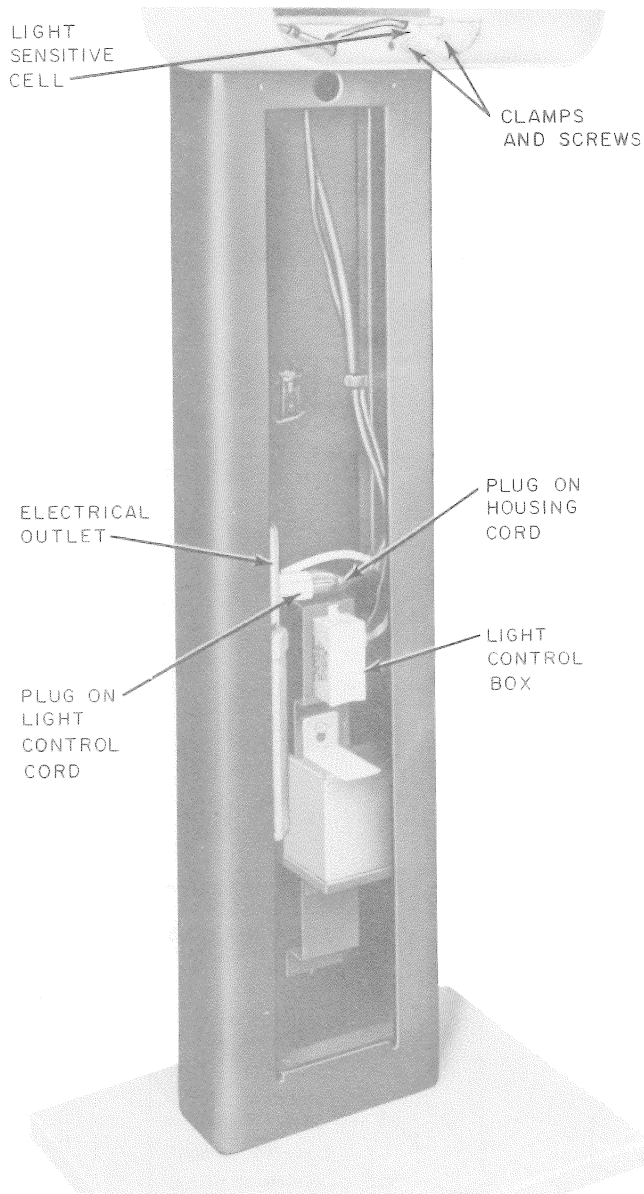
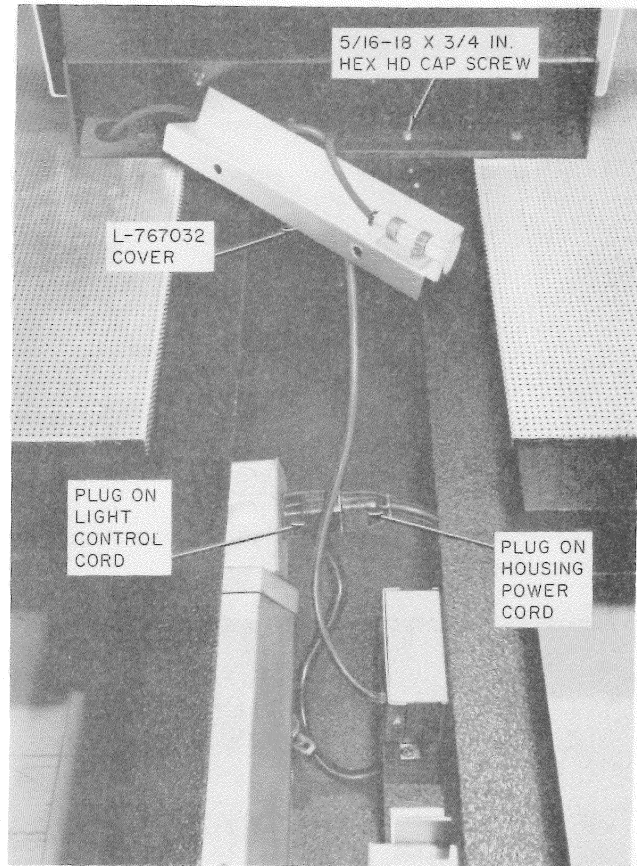

Fig. 20—Installation of KS-19261, List 4 Light Control Assembly
Fig. 24—KS-20842, List 32 Housing Installed on Post
- (4) Remove the two cap screws and two flatwashers from the lower rear of the housing and remove the L-765034 cover.
- (5) Position housing on the post with the upper support plate resting on top of post.
- (6) Pull the housing cord through the round hole on front of the post, and plug into electrical outlet or connect as shown in Fig. 20 if an optional KS-19261, List 4 light control is required.
- (7) Using the two 3/8-16 by 1-1/2 hex head cap screws and two (0.046 by 0.734 by 0.063) flatwashers removed in step (1), secure upper part of the housing by inserting the screws through the upper support plate on the housing, the post cap and into the post assembly.
- (8) Secure lower part of the housing using the L-765034 cover, the two 5/16-18 by 1 hex head cap screws and two (0.344 by 0.875 by 0.063) flatwashers removed in step (4). Reach in through opening on lower part of the post and insert the screws through the post, through the housing, and into the rear of the cover.
- (9) Ensure that the two connectors in upper part of the housing are properly engaged, and install the two 12-inch, 13-watt (F13T8-CW) fluorescent lamps removed in step (3).
- (10) Install the L-765038 sign and lens assembly to upper part of the housing, and secure using the four L-765065-3 flat head security screws (No. 10-32 by 3/4) removed and loosened in step (2).
- (4) Remove the two 5/16-18 by 3/4 hex head cap screws and two 0.344 by 0.875 by 0.063 flatwashers from the back side of the shelf (Fig. 24).
- (5) Position the List 32 housing close to the post and start to feed the plug end of the housing cord through opening in post toward the electrical outlet.
- (6) Position housing on the post with the upper support plate resting on top of the post cap.
- (7) Pull the housing cord through the hole on front of the post (Fig. 20).
- (8) Using the two 3/8-16 by 1-1/2 hex head cap screws and two (0.406 by 0.734 by 0.063) flatwashers removed in step (1), secure upper part of the housing by inserting the screws through the upper support plate on the housing, the post cap, and into the post assembly.
- (9) Secure the lower part of the housing to the post using the two 5/16-18 by 1 hex head cap screws and two (0.344 by 0.875 by 0.063) flatwashers removed in step (4). Reach in through opening on lower part of the post and